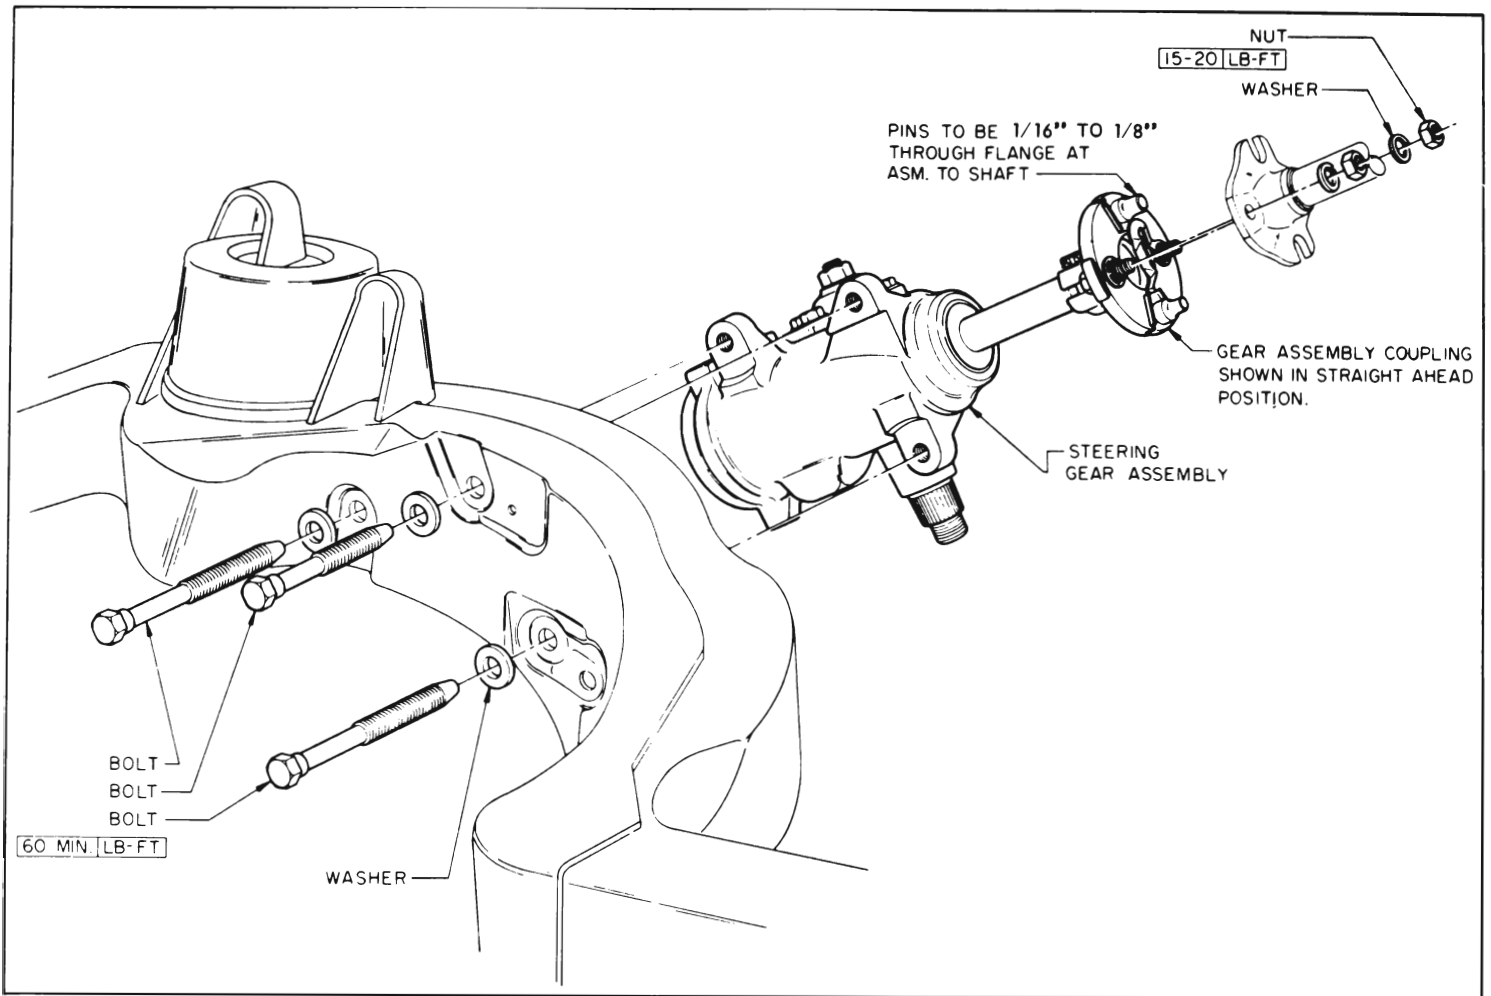

Figure 8-9—Manual Steering Gear Installation
1. Remove two nuts securing gear coupling to flange on lower end of steering shaft (See Figure 8-9).